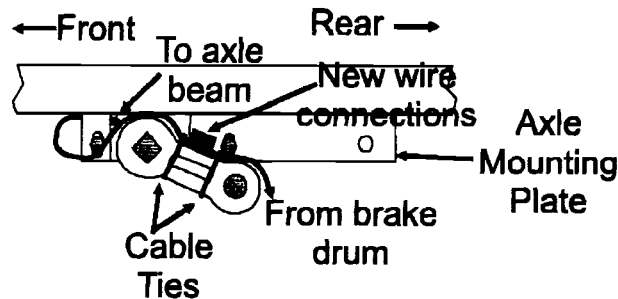

Fig. 6
18. Cable tie the newly installed red coated brake wire to the axle swing arm, making sure the wire will not contact any moving parts of the brakes, tire and/or suspension. We recommend the use of two (2) cable ties. (Fig. 6)
32. Cable tie the newly installed red coated brake wire to the axle swing arm, making sure the wire will not contact any moving parts of the brakes, tire and/or suspension. We recommend the use of two (2) cable ties. (Fig. 6)